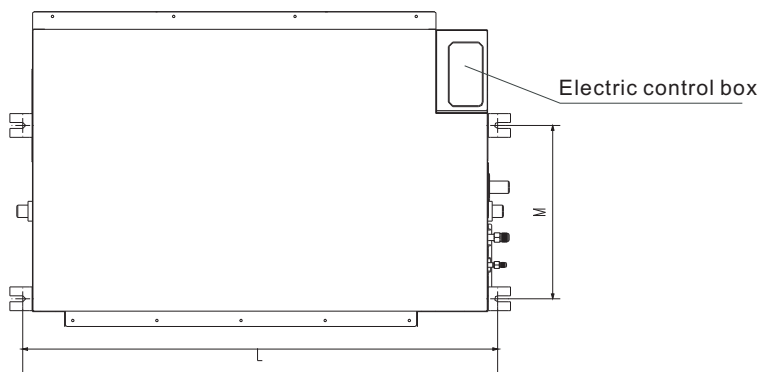

Fig.40
- Determine the location of hanging screw bolt following Fig.40.